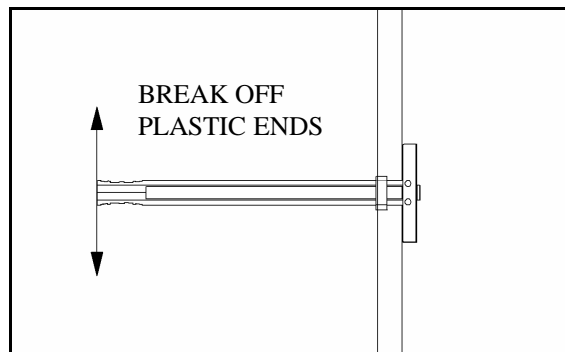

Figure 13. Break Off the Ends of Anchor
5. Split finger grip ends apart in order to break plastic ends off flush with plastic ring of anchor (see Figure 13).